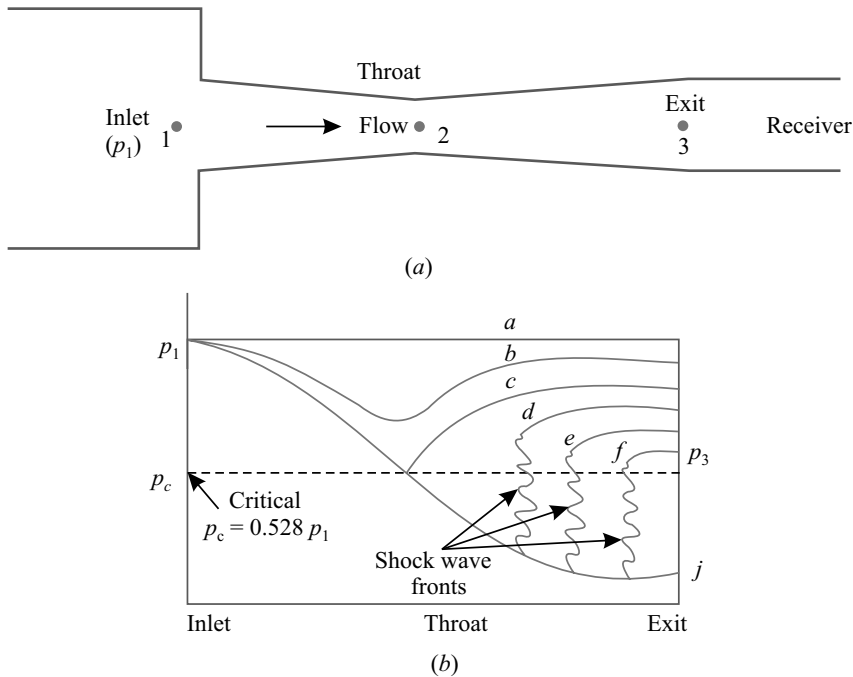

Fig. 15.12. (a) Laval nozzle (convergent-divergent nozzle); (b) Pressure distribution through a convergent-divergent nozzle with flow of compressible fluid.
- When the pressure in the receiver, $p_3 = p_1$, there will be no flow through the nozzle, this is shown by line a in Fig. 15.12 (b).